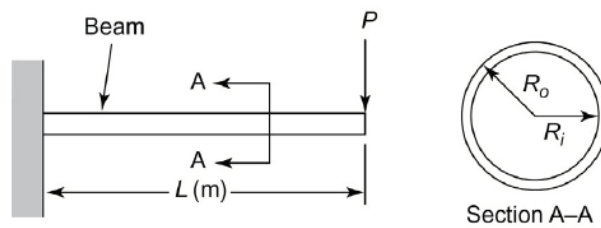

Fig.3 Cantilever beam.
8. A cantilever beam is subjected to the point load  $P$  (kN), as shown in Fig 3. The maximum bending moment in the beam is  $Pl$  (kN·m) and the maximum shear is  $P$  (kN). Formulate the minimum mass design problem using a hollow circular cross section. The material should not fail under bending stress or shear stress. The maximum bending stress is calculated as